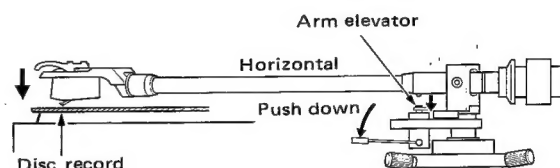
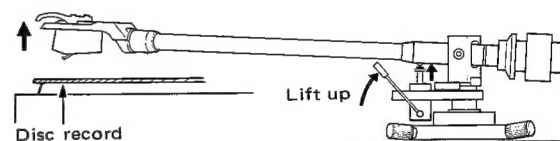

Fig. 13
Fig. 14
② Adjusting Tonearm Height
- Now check the action of the arm elevation lever. When it is lifted, the stylus should rise above the record surface (Fig. 14). When the lever is pushed down, the arm elevator should not touch the tonearm (Fig. 13).